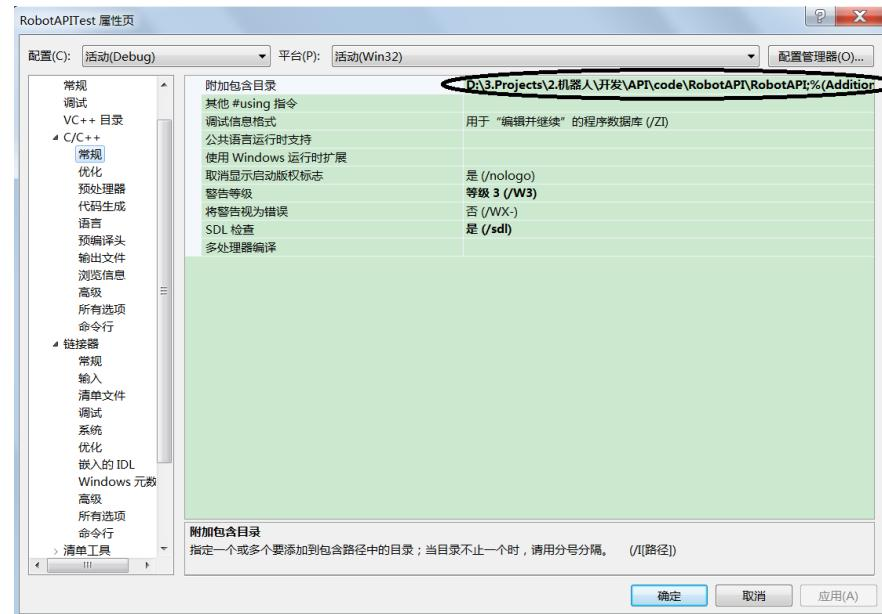

Figure 1-1 Add the directory where robot_api_c++.h is located in "Additional Include Directory"
Step1. After creating a C++ project, copy robot_api_c++.h and RobotAPI.lib to an arbitrary directory. It is recommended to copy to the project directory, in the project properties-configuration properties-C/C++-general "additional inclusion directory" Add the directory where robot_api_c++.h is located, as shown in Figure 1-1 below.